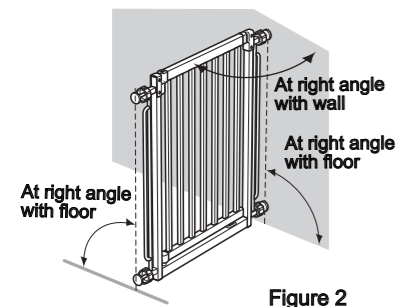

Figure 2
- Set the product against the wall (Fig. 2).